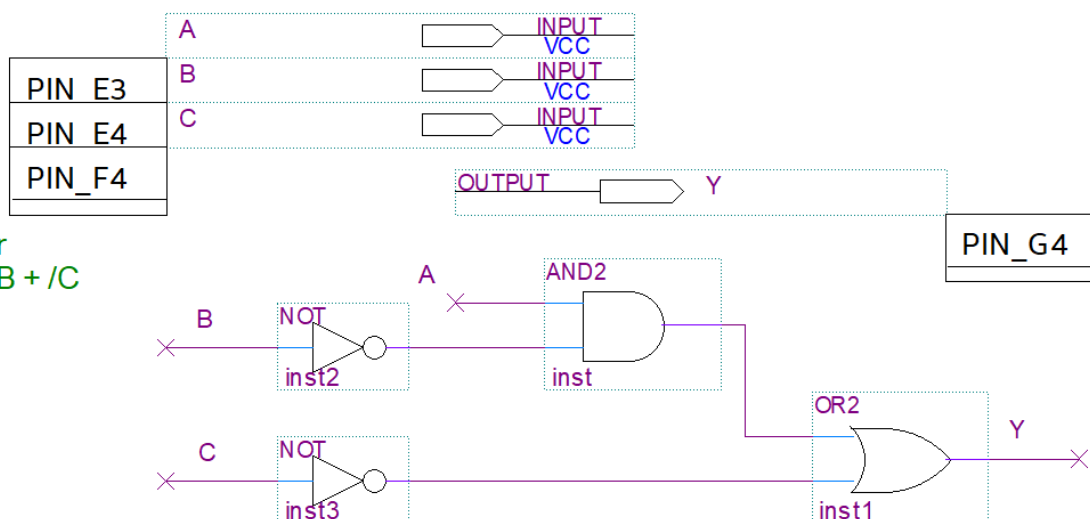

Figure 17: Bdf with pin assignments
- The result is that your bdf will now change to look something like Figure 17. Note that you can move the pin numbers around in the bdf.